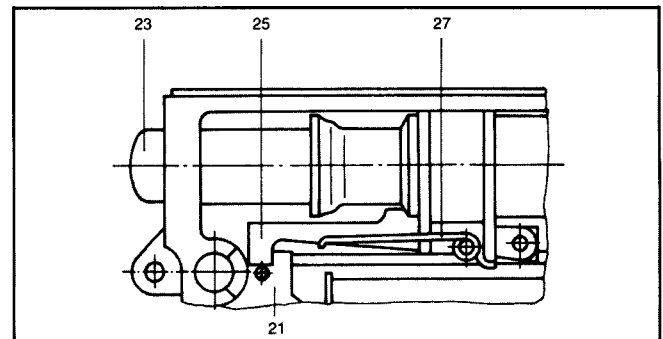

Figure 17a. Latch Detail Shunt Release (Shown Charged)
The energy-storing mechanism consists of the striker pin, (23), and its operating spring, (31), which is costly located inside the striker pin (23). When the spring is compressed, the striker pin is held by a latch, (25), whose sloping face is forced against the appropriately shaped striker pin, (23). by spring, (27). The other end of the latch, (25), is supported by a partly milled locking pin, (21) (Fig. 17a.), pivoted in the cover sheets of the magnet armature, (9). The armature, (9), is pivoted in front of the poles of the U-shaped magnet core, (1), and is pulled away from it by the tension spring, (11).